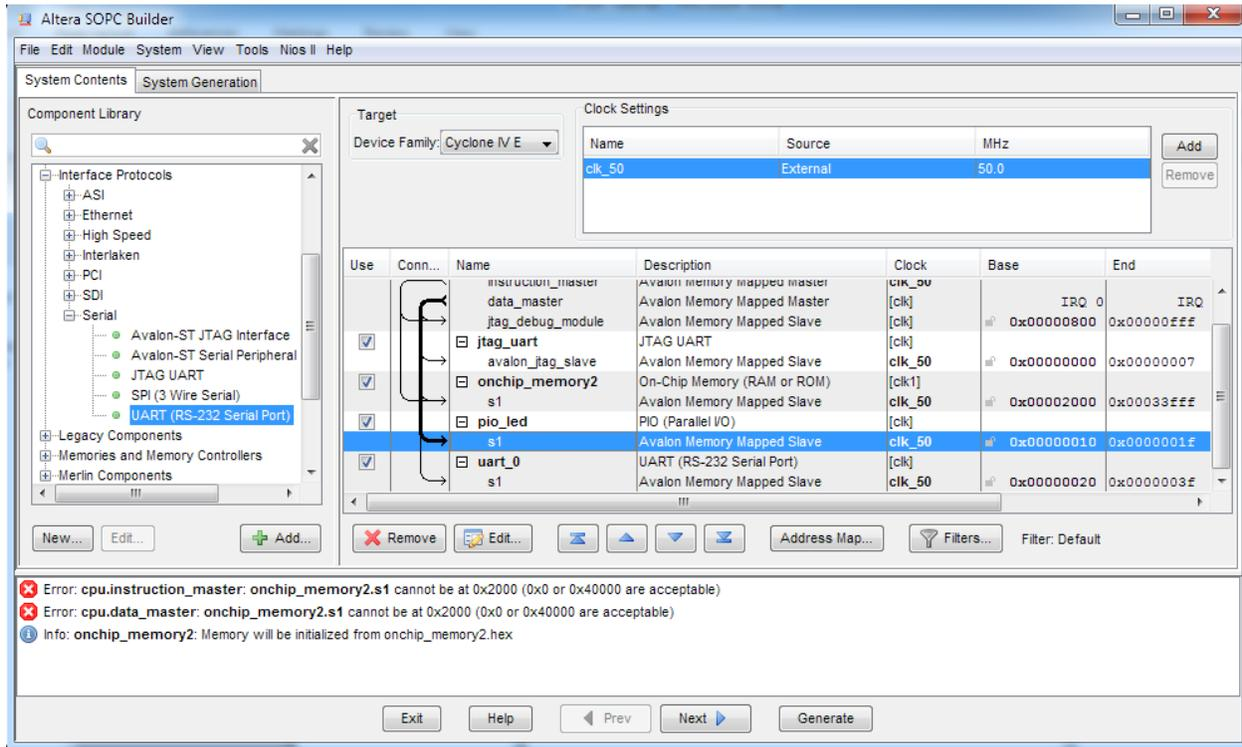

Figure 1-36 UART
23. Click **Finish** to close UART box and return to the window as shown in Figure 1-36.